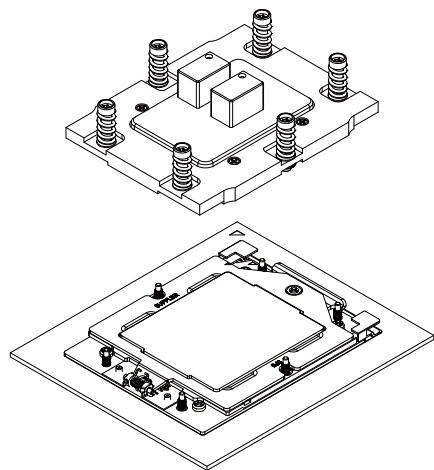

Figure 1
- 2.Place the heat sink directly on top of the CPU (Figure 1) so that the six heat sink mounting screws are aligned with and seated on the six heat sink mounting studs or nut standoffs on the socket stiffener frame.